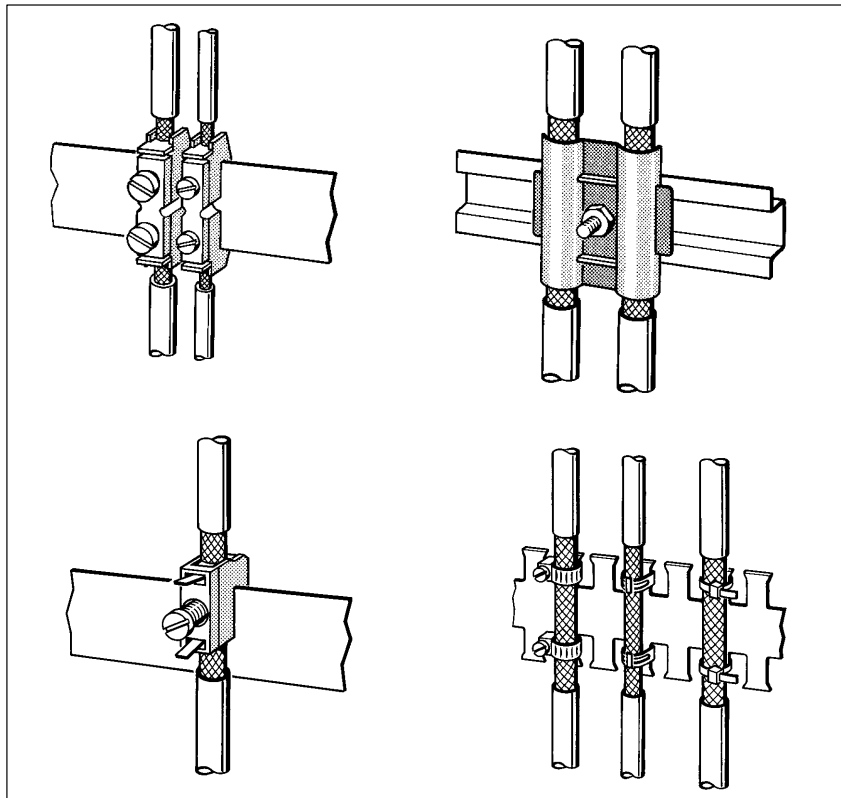

Figure 3-1 Securing shielded cables with cable clamps and cable ties (schematic diagram)
- The enclosing clamps must hold a large part of the shield and make good contact (see Fig. 3-1).